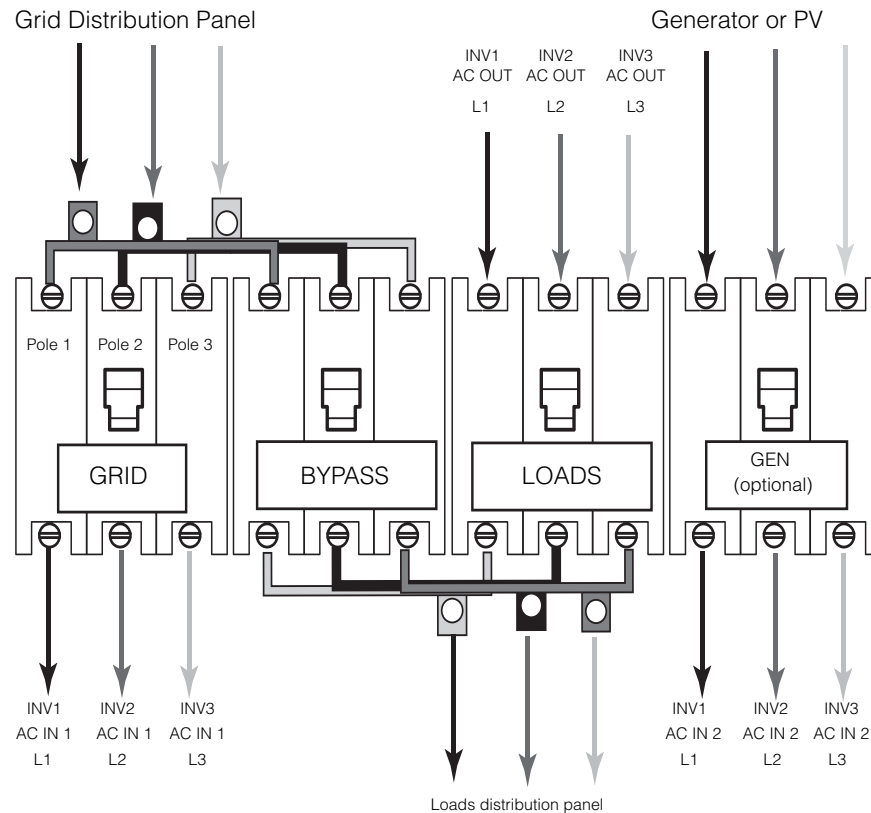

Figure 3-33 PDP Three-Phase AC Wiring
4. Connect the AC wiring as shown in Figure 3-33.